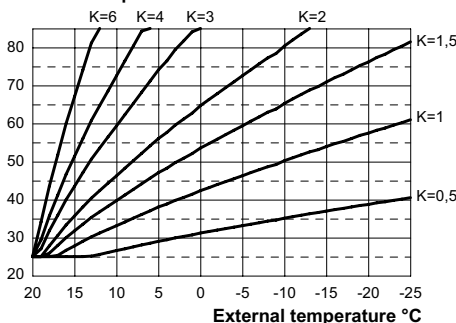

Fig. 7.16
If the boiler is **EQUIPED** with the remote control (optional) refer to Fig. 7.16.
When installing the external probe it is necessary to set this parameter based on the efficiency of the heating plant in order to optimise the flow temperature (Fig. 7.16).
E.g. In order to have a flow temperature at the heating plant of 60°C with an external temperature of -5°C, set a K at 1.5 (sectioned line in Fig. 7.16).
- Using keys 15 or 16 it is possible to change the value of parameter 15 from a minimum of **01** to a maximum of **60** based on the selected bend of the K coefficient in Fig. 7.16